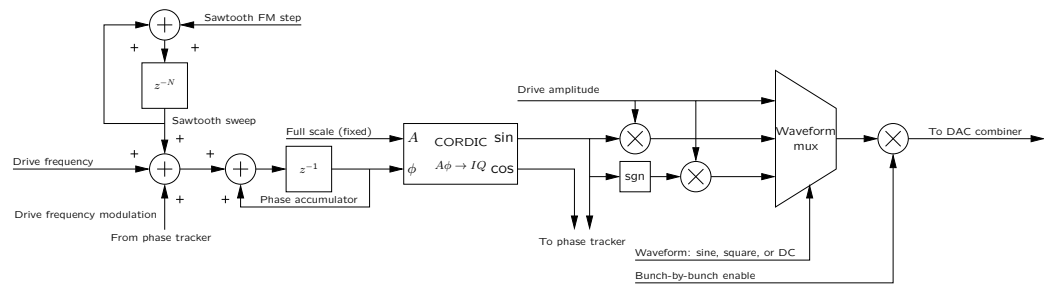

Figure 15: Drive source block diagram
Three independent drive sources are available in iGp12-328F **FPGA**, 0, 1, and 2. Each source is based on an **numerically controlled oscillator (NCO)** with sawtooth **frequency modulation (FM)** capability and bunch-by-bunch enable. Three output waveform types are supported: sinusoidal, square, and **direct current (DC)**. Block diagram of a drive source is shown in Figure 15.